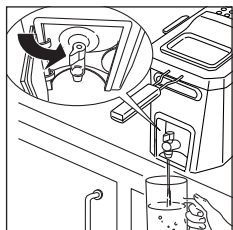

fig. 7
4. Run the liquid into a container (see Fig. 7), making sure it doesn't overflow.